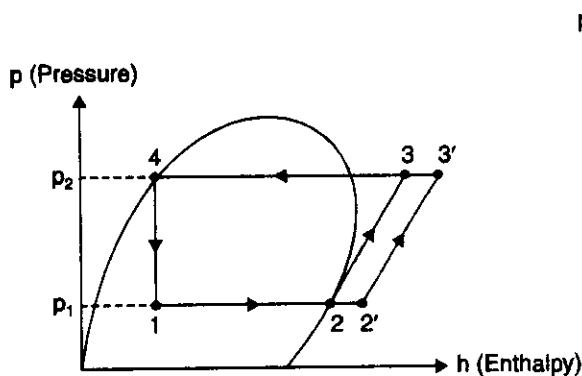

Fig. 14.17. Effect of superheating.
**3. Effect of superheating.** As may be seen from the Fig. 14.17 the effect of superheating is to increase the refrigerating effect but this increase in refrigerating effect is at the cost of increase in amount of work spent to attain the upper pressure limit. Since the increase in work is more as compared to increase in refrigerating effect, therefore overall effect of superheating is to give a low value of C.O.P.